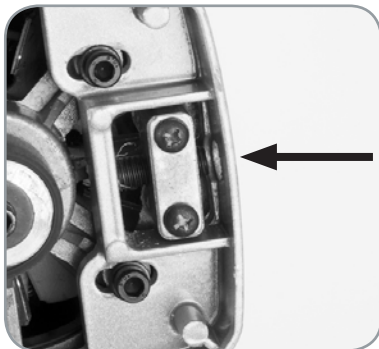

Fig. 47
- The tensioning screw **(Fig. 47)** is accessed through a hole in the rear of the aluminum transmission case.